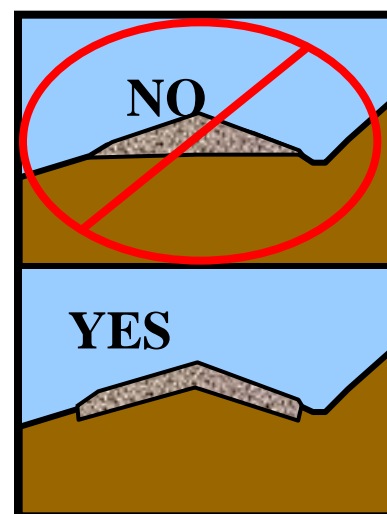
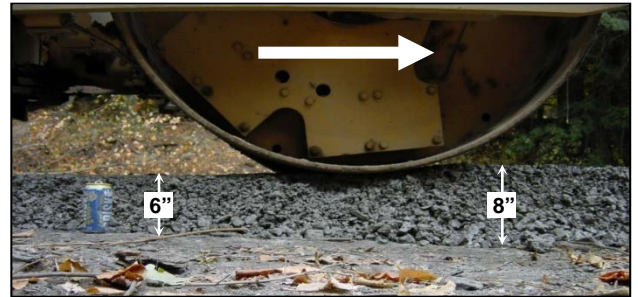

Figure 2. Road base preparation.
Figure 3: A roller moving from left to right compacts the 8" lift of loose DSA down to 6".
3. Establish proper drainage in existing base (*figure 2*). Recommended crown or cross-slope is ½ to ¾ inch per horizontal foot. Proper shape may be a flat “A” crown profile, an in-slope or out-slope. If exposed bedrock or insufficient material prevents proper shaping of the road base, additional base material should be added before aggregate placement.
An un-compacted uniform depth of 6 to 8 inches of DSA is to be used to establish the driving surface (*figure 3*). Placement is to be in a single lift. The preferred method of application is through a paver. Set the paver adjustments on application thickness and width so it is unnecessary to use a grader. The required crown or side slope is $\frac{1}{2}$ " to $\frac{3}{4}$ " rise per horizontal foot. This slope is to be achieved by properly preparing base and placing aggregate in a uniform lift (*figure 2*). When the paver is applying aggregate, care should be taken to keep the paver at or near capacity at all times. To fill driving surface areas outside the specified width (e.g. driveway entrances, pull-offs, and passing lanes), additional DSA is to be added and tapered to grade or butted against a pre-cut channel of the same depth. If berm or bank edges don't exist to hold the new DSA surface, then sufficient material is to be placed, tapered, and compacted to form protective edge berms. Individual projects can be placed at either 8" or 6" depth. Factors such as traffic volume, traffic weight, and available budgets play a role in determining aggregate depth. 8" aggregate placements will provide more material to re-work into the road over time, while 6" placements will allow a longer length of road to be surfaced.